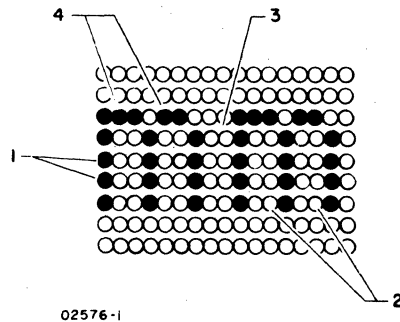

Figure CRT45. Display Character Resolution
- 15) If necessary, repeat steps 12, 13, and 14 to obtain best possible character resolution over entire screen. Refer to figure CRT45 for particular characteristics of characters to be observed.